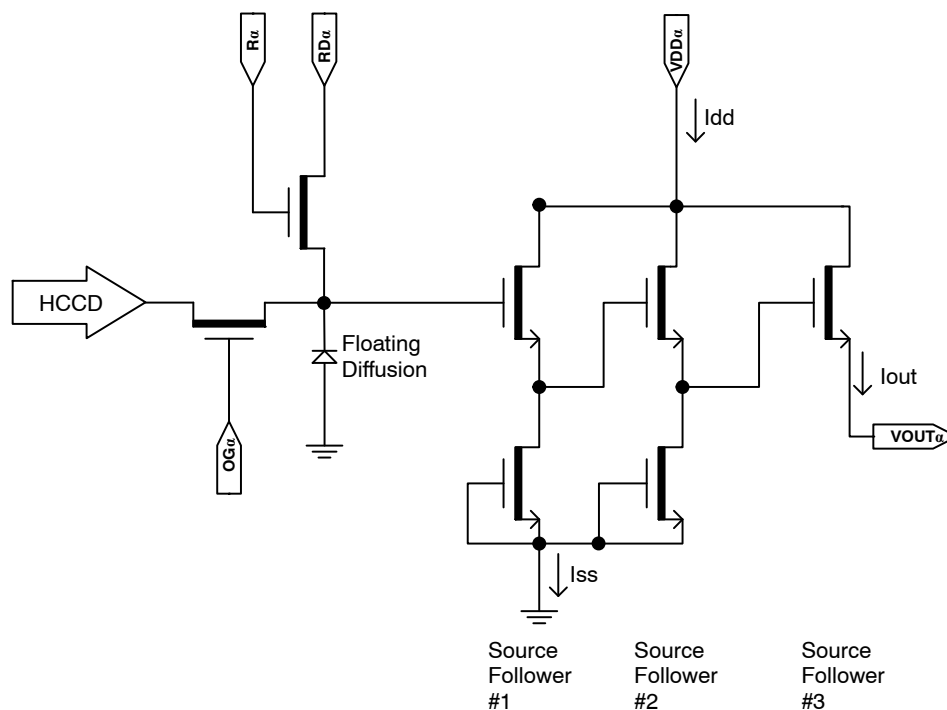

Figure 17. Output Amplifier
24. The maximum DC current is for one output. $I_{dd} = I_{out} + I_{ss}$. See Figure 17.